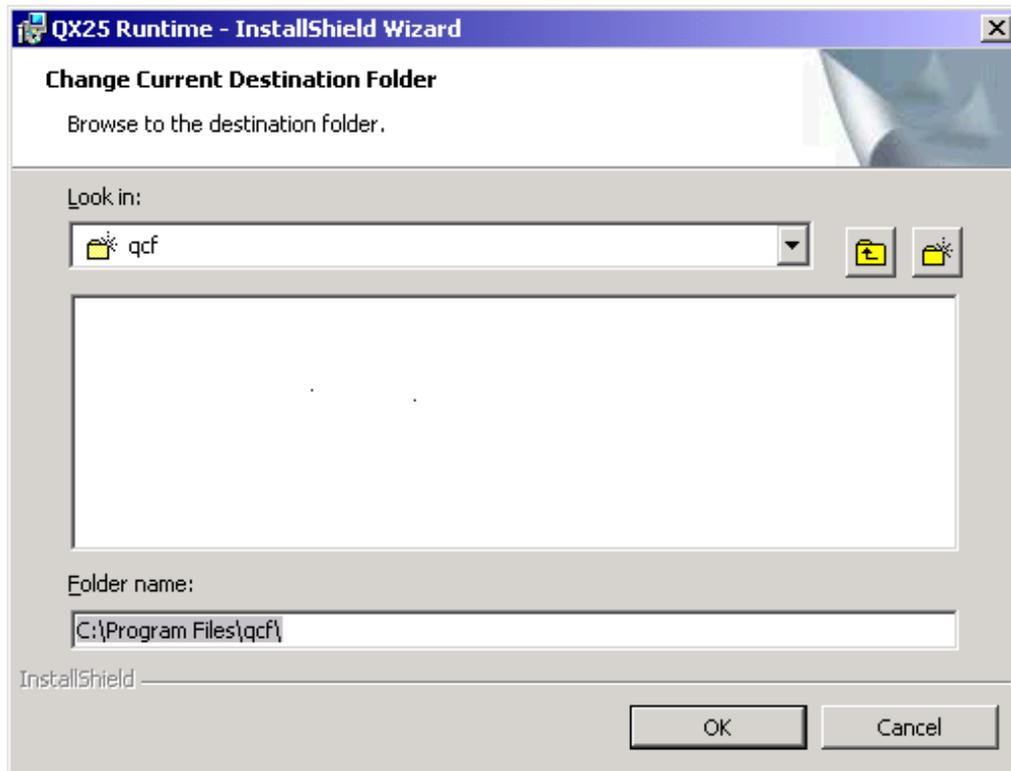

FIGURE 162. Change destination folder window
12. The following Destination Folder window appears as in Figure 162.